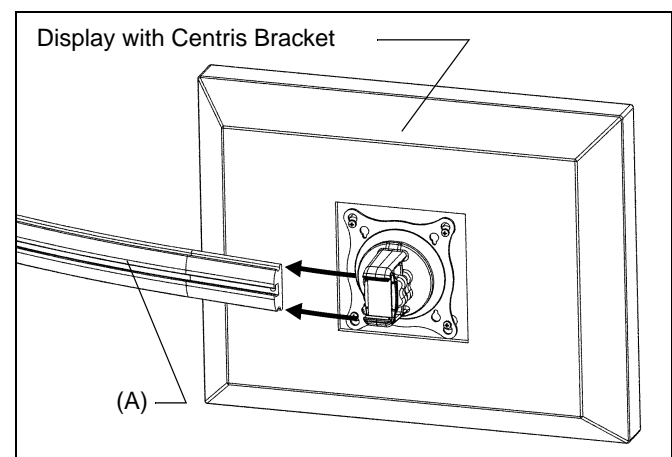

Figure 5
1. Slide three displays with Centris brackets onto 54" array extrusion (A). (See Figure 5)